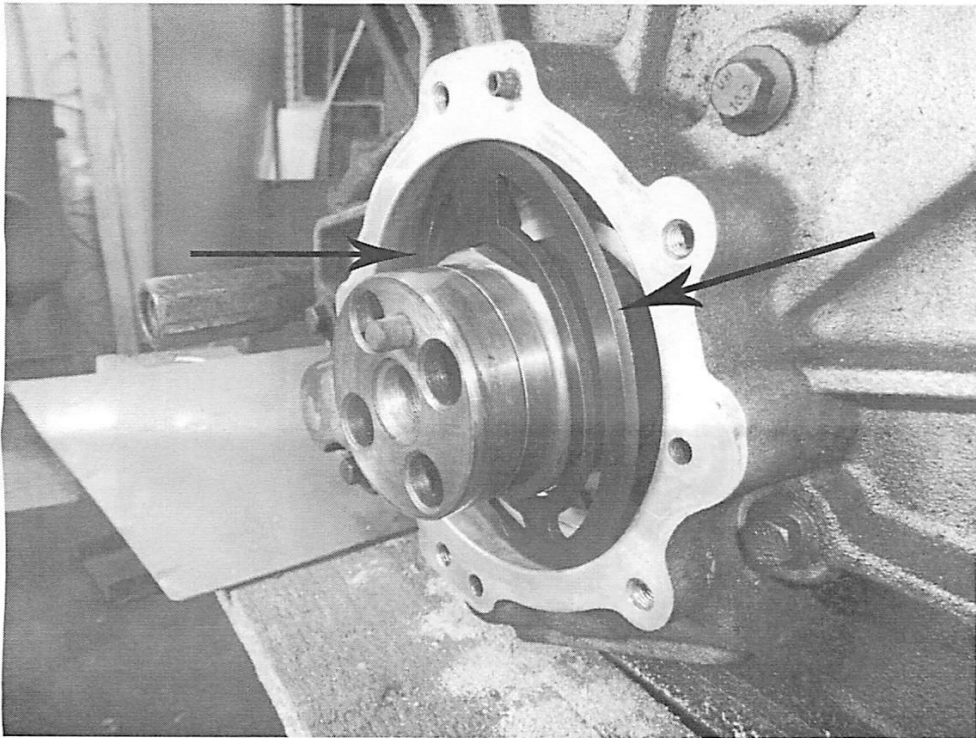

Figure: 4
- 4) With the lower tab flush to the groove and inserted first, appx. halfway in. Orient the plate on an appx. 30 degree angle as shown in **Fig.4**